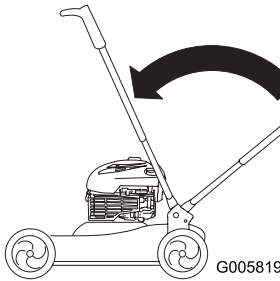

Figure 49
3. Raise the handle to the vertical position (Figure 49).